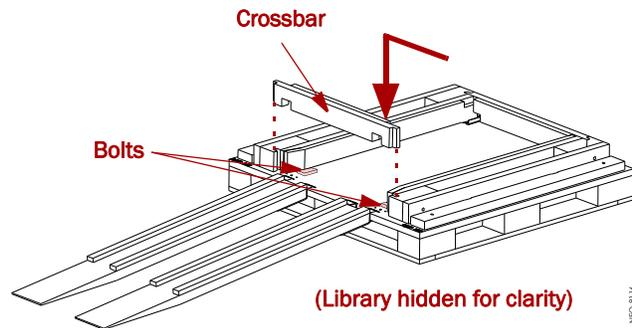

Figure B-6: Removing the Rear Crosspiece
- c. Attach the **rear crosspiece** (Figure B-6).